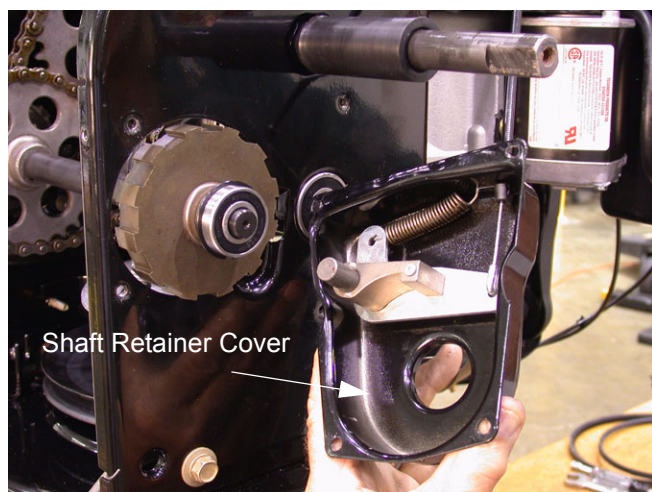

Figure 25
- 11.2. Using a 3/8" socket, remove the shaft retainer cover. See Figure 25.